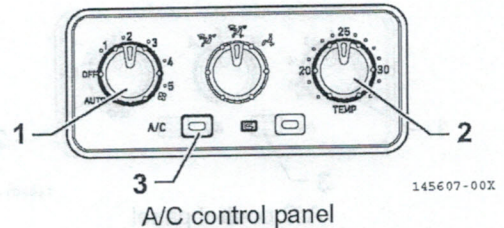

Fig. 2-107
1. Operate the blower air volume setting dial (Fig. 2-107, 1) to set the desired air volume or set it to the AUTO position.
2. Fully turn the temperature adjustment dial (Fig. 2-107, 2) clockwise.
3. Turn the air conditioner switch (Fig. 2-107, 3) to OFF (the lamp goes off).
4. When the room gets warm, use the temperature adjustment dial (Fig. 2-107, 2) and blower air volume setting dial (Fig. 2-107, 1) to adjust to the desired room temperature.
(In the case that the window glass tends to get fogged in rainy weather in spring or autumn.) With the heating turned on, turn the air conditioner switch (Fig. 2-107, 3) ON. (The lamp goes on.)